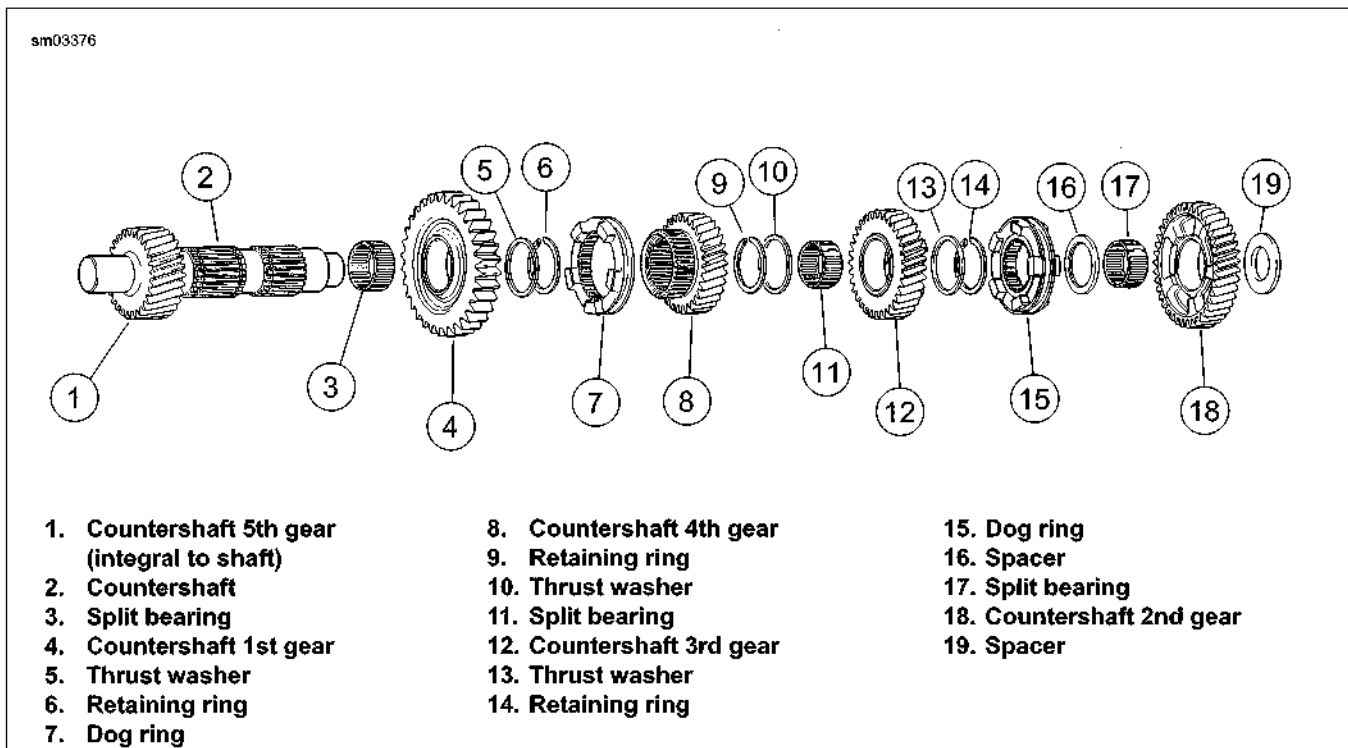

Figure 5-40. Transmission Countershaft Assembly Once Removed from Left Crankcase/Disassembly
1. See Figure 5-40. Install **new** split bearing (3) in 1st gear position on mainshaft.
2. Install 1st gear (4) and thrust washer (5).
3. Using RETAINING RING PLIERS (Part No. J-5586-A), expand and install **new** retaining ring (6).
4. Install dog ring (7) onto 4th gear (8). Now install dog ring and gear assembly onto countershaft.
5. Expand and install **new** retaining ring (9).
6. Install thrust washer (10).
7. Install **new** split bearing (11) in 3rd gear position on mainshaft.
8. Install 3rd gear (12) and thrust washer (13).
9. Expand and install **new** retaining ring (14).
10. Install dog ring (15). Make sure to install with dog ring facing same direction as when it was removed.
11. Install spacer (16).